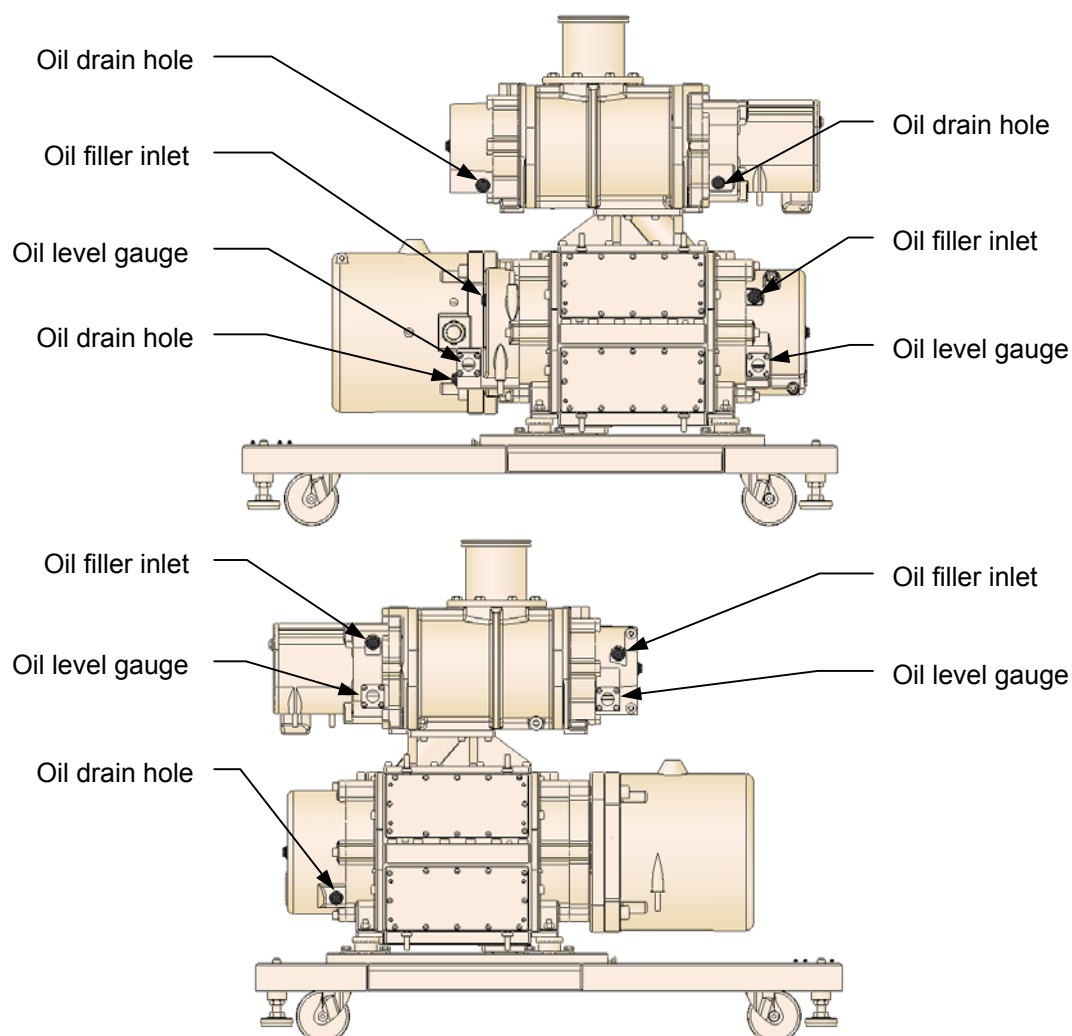

Fig. 8.2 Oil filler port, oil level gauge, and oil drain port positions
- (2) After you have waited until the internal pump pressure returns to atmospheric (normal) pressure, remove the plug from the oil-filler inlet. (See Fig. 8.2)
- (3) Check the level through the window of the gauge. Then, add the oil so that the level is upper limit line (see Fig. 8.2 and 8.3).
- (4) After you have checked that there are no depositions and fragments adhering to the O ring attached to the plug, close the oil-filler inlet.
- (5) Fit a waste oil container (PVC bag) to the bottom of the oil drain hole of the secondary reservoir and remove the drain plug. (See Fig.8.2)
- (6) When you have drained off the waste oil close the drain hole after you have checked that there are no depositions and fragments adhering to the O ring attached to the plug.